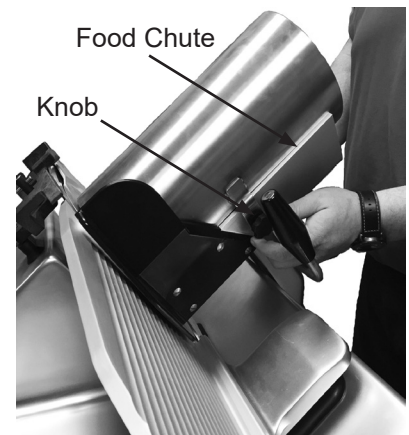

Figure 4-3.
5. Tighten two knobs to secure vegetable hopper to food chute (Figure 4-3).